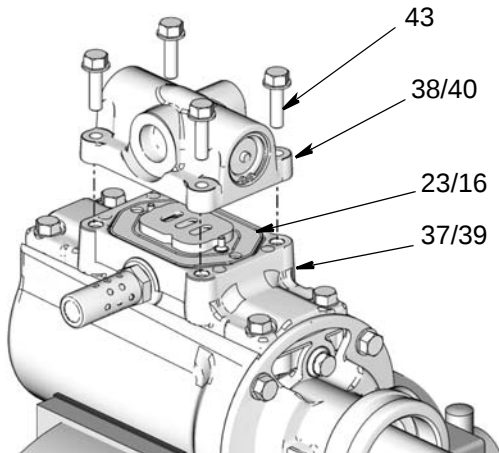

Fig. 2
- Using a 10 mm socket wrench, remove the 4 screws (43) from the air valve (38/40) and remove air valve assembly from the manifold (37/39).
- Remove the gasket (23/16). If you are replacing this part, discard gasket. (Fig. 2).